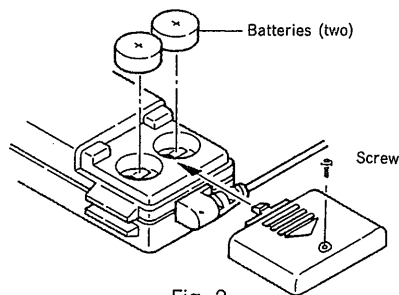

Fig. 2
Battery Replacement (See Fig. 2)
- ① Remove the screw and the battery cover.
- ② Replace the batteries as shown in Fig. 2.